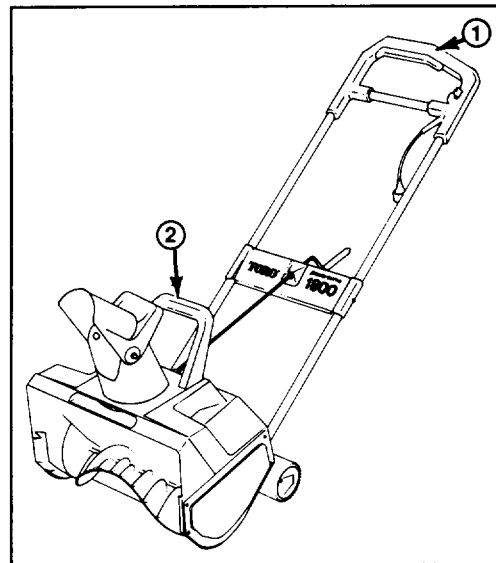

Figure 6
5. Shave down large banks of snow by placing the snowthrower on the bank. Lift the snowthrower by the primary and secondary handles only (Fig. 6).
6. When clearing steps or deep drifts, hold the unit by the primary and secondary handles (Fig. 6) and use a swinging or sweeping motion.